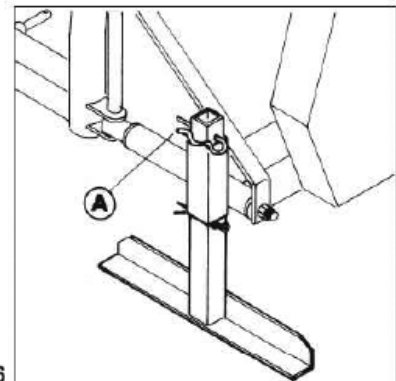

FIG. 4.6
Raise foot support (FIG. 4.6) and bring into working position and fasten with split pin A.
5. Lower foot support (FIG. 4.6)